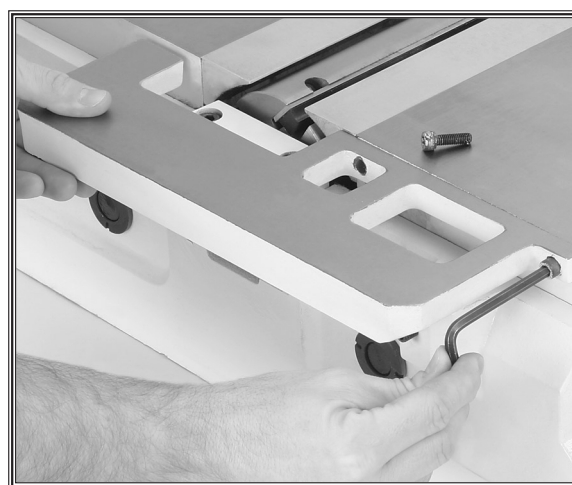

Figure 16. Attaching extension table to jointer.
17. Use the two M6-1 x 20 cap screws to attach the extension table to the front of the jointer, as shown in **Figure 16**. Leave the cap screws loose for now.